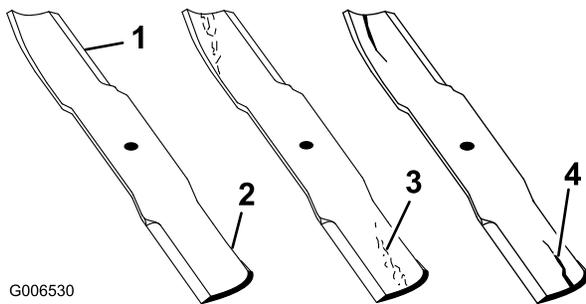

Figure 77
1. Inspect the cutting edges (Figure 77). If the edges are not sharp or have nicks, remove and sharpen the blades. Refer to Sharpening the Blades.
2. Inspect the blades, especially the curved area (Figure 77). If you notice any damage, wear, or a slot forming in this area (Figure 77), immediately install a new blade.